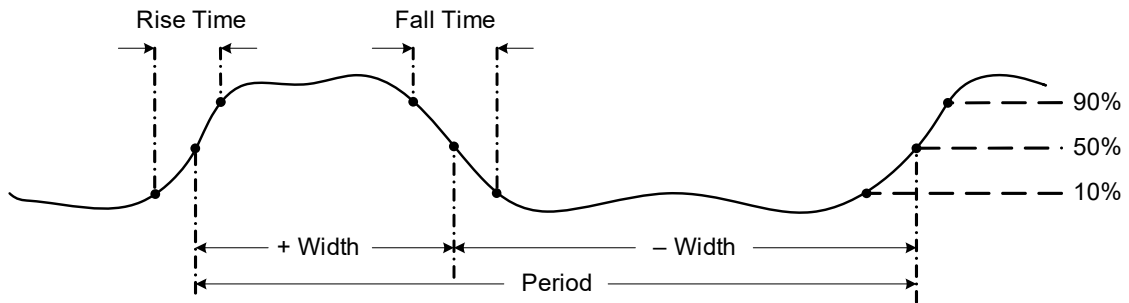

Figure 2-37 Frequency, pulse width, and duty cycle measurements
- Frequency is the number of cycles a signal completes each second. Frequency is defined as $1/\text{Period}$. Period is defined as the time between the middle threshold crossings of two consecutive, like-polarity edges, as shown in Figure 2-37.
The pulse width function measures the amount of time a signal is high or low, as shown in Figure 2-37. It is the time from the middle threshold of the rising edge to the middle threshold of the next falling edge. The measured waveform must be periodic; its pattern must repeat at equal time intervals.
The duty cycle (or duty factor) of a repetitive pulse train is the ratio of the positive or negative pulse width to the period expressed as a percentage, as shown in Figure 2-37.